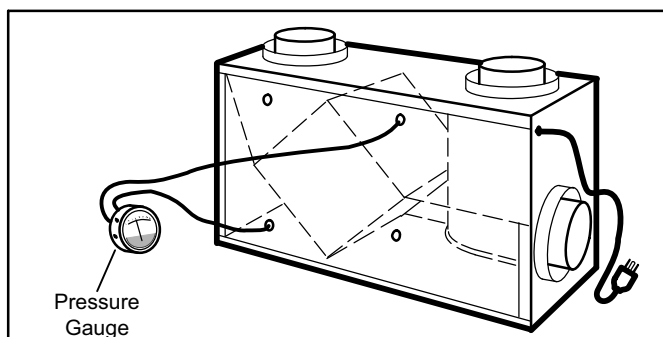

Figure 30. Measuring Stale Air
5. Measure Stale air – connect hoses to door ports (see figure 30); measure stale air and record reading.